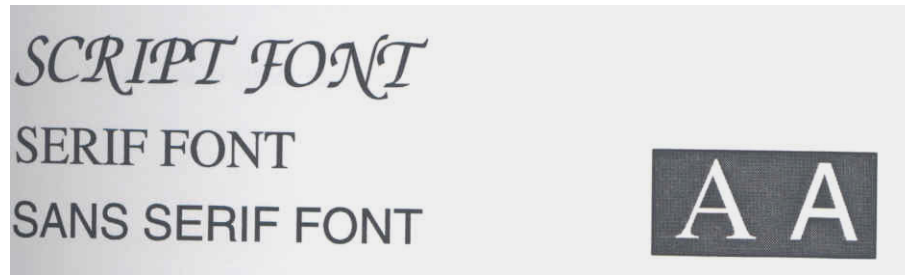

Figure 10.1 Example of script, serif, and sans serif fonts (left, top to bottom) and reversed-out type
- sans serif fonts are preferred. (Serifs are the small, decorative extensions at the ends of a letter's line). Serif fonts have fine lines that tend to fill during printing, particularly with reversed-out printing of text. (Figure 10.1, right side) A larger font size could overcome this problem somewhat.